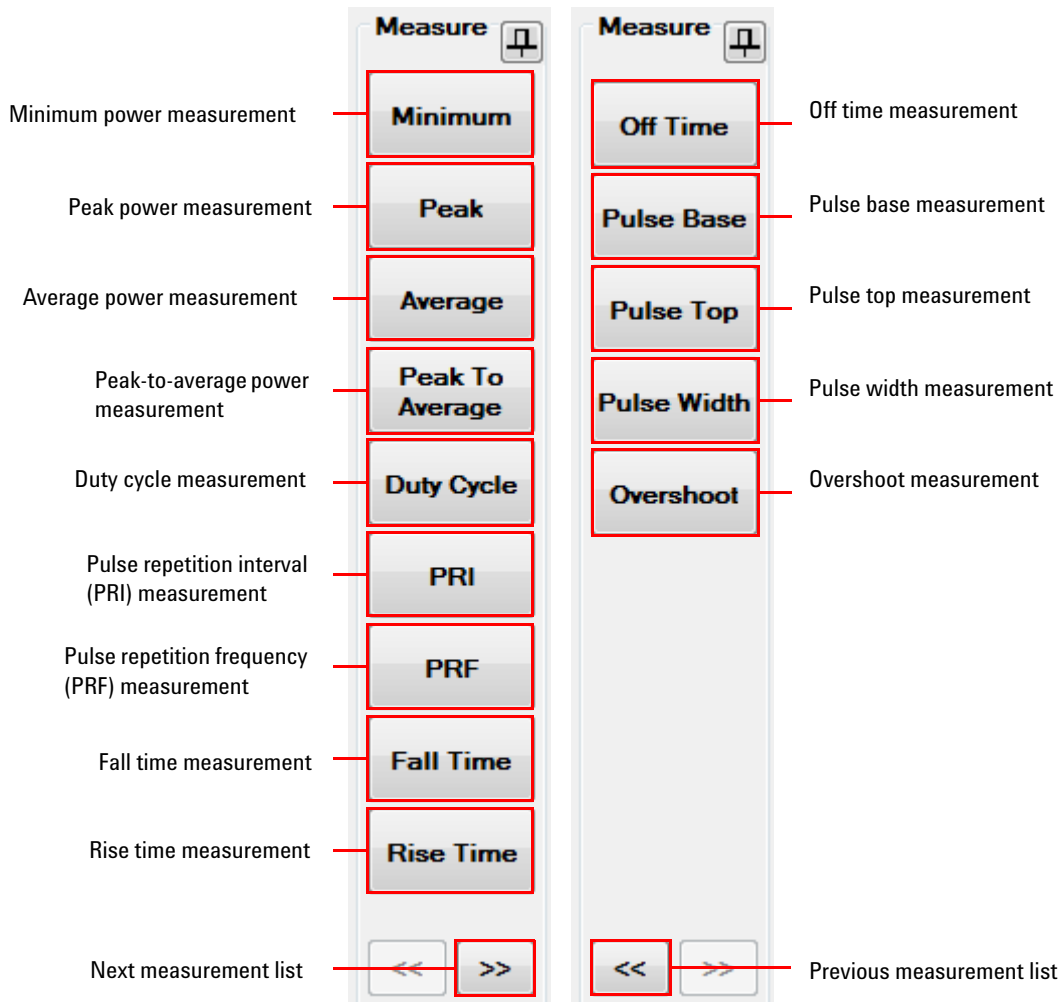

Figure 2-102 Measure functions menu on the graphical interface
The Measurement view displays the measurement results for different measurement functions. You can select the desired measurement functions to measure from the Measure menu in the graphical interface as shown in Figure 2-102. You can also select the measurement functions from the **Measure** menu on the toolbar.
- 1 To display the measurement results, select the measurement functions from the Measure menu on the graphical interface to measure as shown in Figure 2-102.